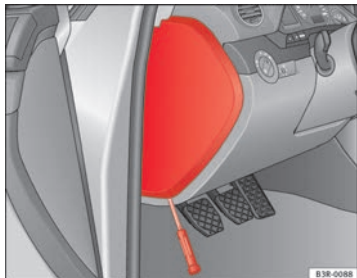

Fig. 200 Left side of dash panel: Fuse box cover
- Remove the fuse cover using a screwdriver ⇒ fig. 200.